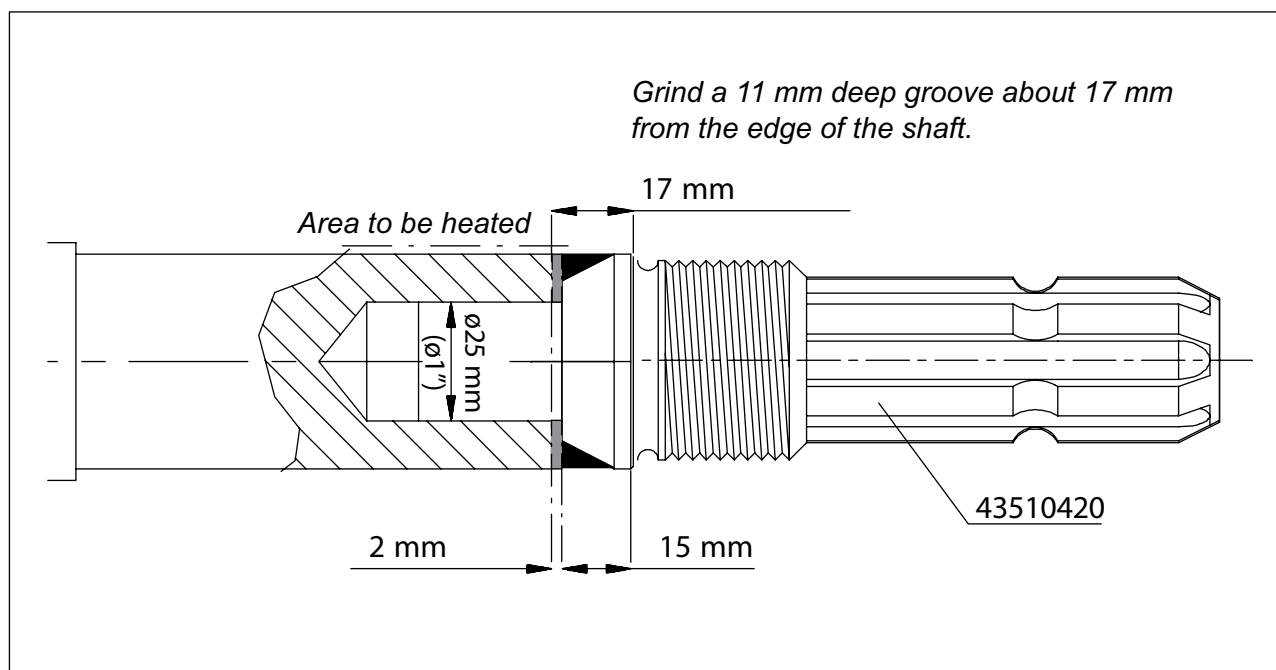

Fig. 27. Replacing the splined shaft
4. Grind an 11-mm-deep groove about 17 mm from the edge of the shaft. See Fig. 27.
7. Clean the shaft hole and install the new shaft as shown in Fig. 27..